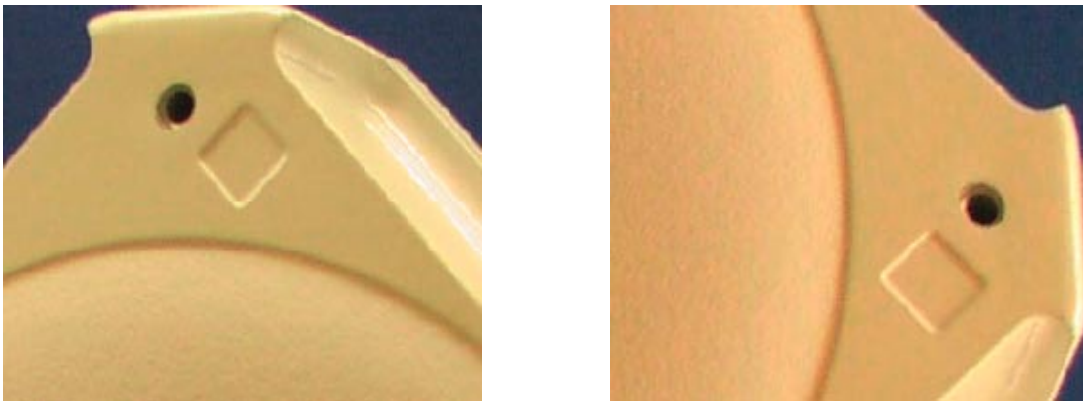

Figure 3-4: Template Radio Mounting bolts
1. Install 4 mounting bolts in the wall at the desired location using the template provided (see Figure 3-4 below). The bolts (normally $\frac{3}{8}$ -16) should extend 0.8 to 3.0 inches (2cm to 7.5cm) from the wall and be strong enough to secure the radio to the wall under foreseeable environmental conditions. The environmental conditions may include, but not limited to, wind, rain, ice, etc. Depending on the wall material the mount is being attached to, a different size bolt may be appropriate. In this case, bolts up to $\frac{3}{4}$ inch in diameter may be used.